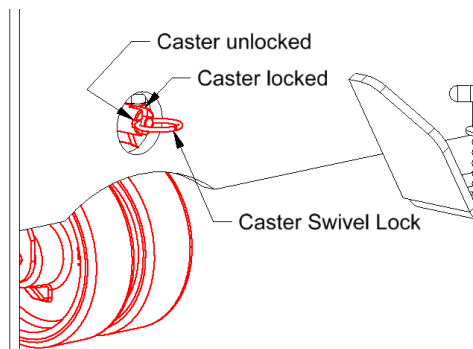

Figure 34
- c. If the rear Caster Swivel were unlocked, push unit forward enough to approximately align the casters with the frame, then pull the pin out by the ring and turn 90°. See figure 34. Caster locks will engage when rolled forward and casters are fully aligned.